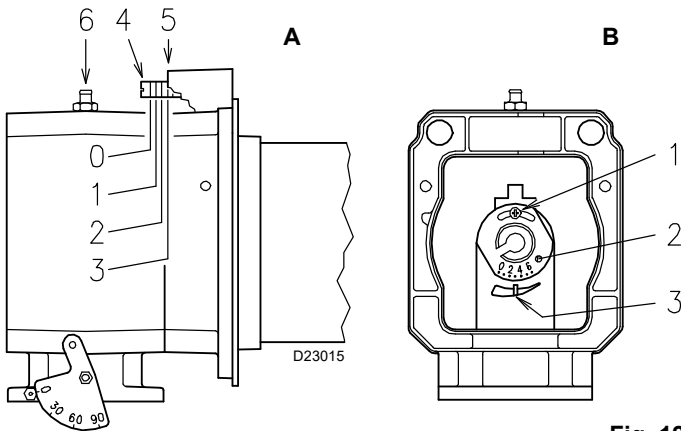
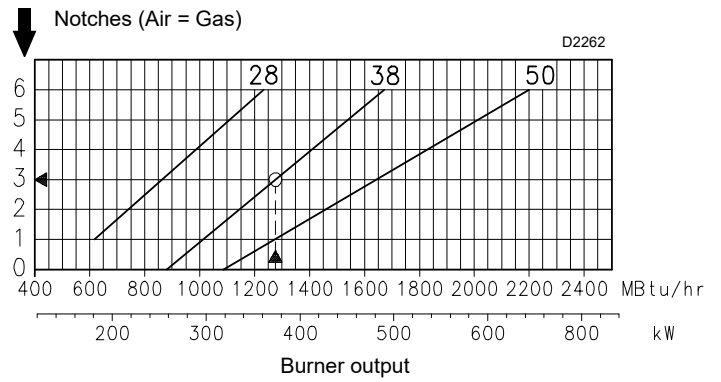

Fig. 12
Fig. 13
Installation operations are now at the stage where the blast tube and sleeve are secured to the boiler as shown in Fig. 12, page 17.
In diagram (Fig. 13, page 17), depending on the MAX output, find the notch to use for adjusting the air and the gas, and then proceed as follows:
Turn screw 4)(Fig. 12, page 17 - A) until the notch identified is aligned with the front surface 5)(Fig. 12, page 17 - A) of the flange.
Loosen screw 1)(Fig. 12, page 17 - B) and turn ring 2) until the notch identified is aligned with index 3).
The MIN output of 378.7 MBtu/hr is not found in the values of tTab. J and therefore diagram (Fig. 13, page 17) is valid, from which it results that for a MAX output of 1288 MBtu/hr the gas and air adjustments are done on notch 3, as in Fig. 12, page 17 - A and Fig. 12, page 17 - B.
Diagram (Fig. 13, page 17) shows the ideal settings for the ring 2)(Fig. 12, page 17 - B). If the gas supply pressure is too low to reach the max output operation pressure indicated on page 19, and if the ring 2)(Fig. 12, page 17 - B) is not fully open, it can be opened wider by 1 or 2 notches. Continuing with the previous example, page 19. indicates that for burner RS 38/M with output of 1288 MBtu/hr a pressure of approximately 1.81" WC is necessary at test point 6)(Fig. 12, page 17 - A). If this pressure cannot be reached, open the ring 2)(Fig. 12, page 17 - B) to notch 4 or 5.
The same as the previous case: diagram in Fig. 13.
The gas ring 2)(Fig. 12 - B) is always adjusted to position 0, irrespective of the MAX burner.
Modulation minimum output: when the MIN output is within the value range given Tab. J, the gas ring 2)(Fig. 12 - B) is adjusted to zero.
- **A** = Gas ring 2)(Fig. 12, page 17 - B) adjusted as indicated in diagram (Fig. 13).
- **B** = Gas ring 1)(Fig. 12, page 17 - B) set to zero.
- Gas ring 2)(Fig. 12, page 17 - B) adjusted as indicated in diagram (Fig. 13, page 17).